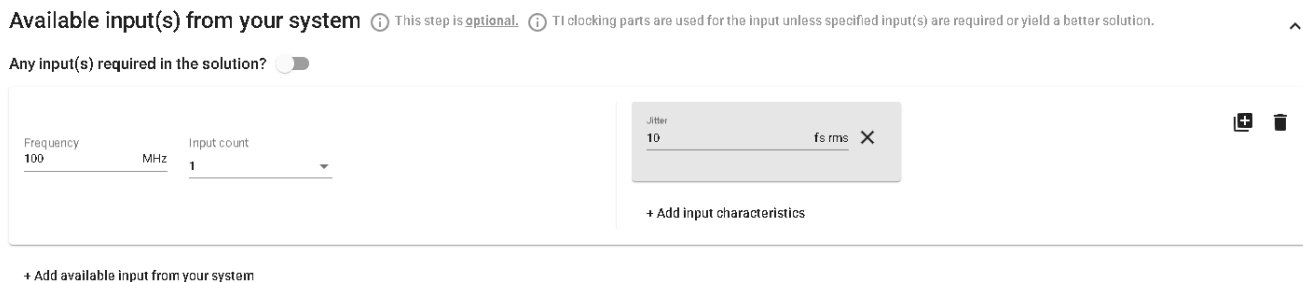

Figure 9-5. Available Input From Your System Section
4. If the user wants CTA to consider a reference/clock that already exists in the system, click on + *Add available input from your system* under the *Available input(s) from your system* section. For this example, the default of the *Aerospace & defense (non space)* already sets the input to 100MHz with 10fs of jitter, which matches this example. This is shown in Figure 9-5.